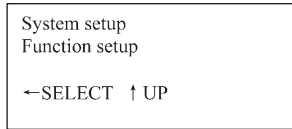

Figure 33
- c. Use the  $\downarrow$  or  $\uparrow$  key to select "Function Setup", press  $\leftarrow$  to enter. As shown in figure 33.
c. Move cursor  $\uparrow$  or  $\downarrow$  to select "Function setup", press  $\leftarrow$ , as shown in the figure 33.
- h. Use  $\uparrow$  or  $\downarrow$  to move cursor to "Function setup", press  $\leftarrow$ , as shown in the figure 33.